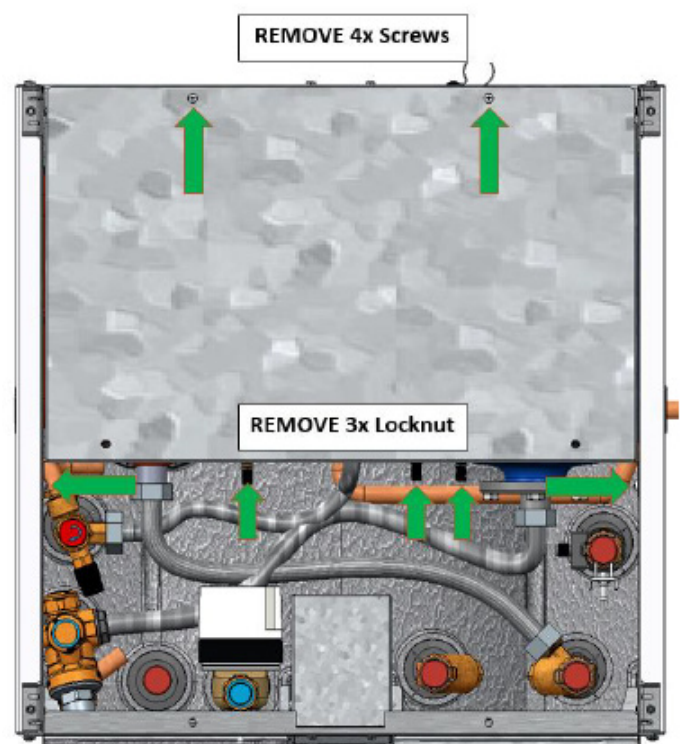

Fig. 86 : Removing Locknuts and screws
6. Disassemble the bracket holding down the expansion vessels by unscrewing the four screws shown in Fig. 86; also remove the three locknuts attaching the schrader extension hose and the bracket.